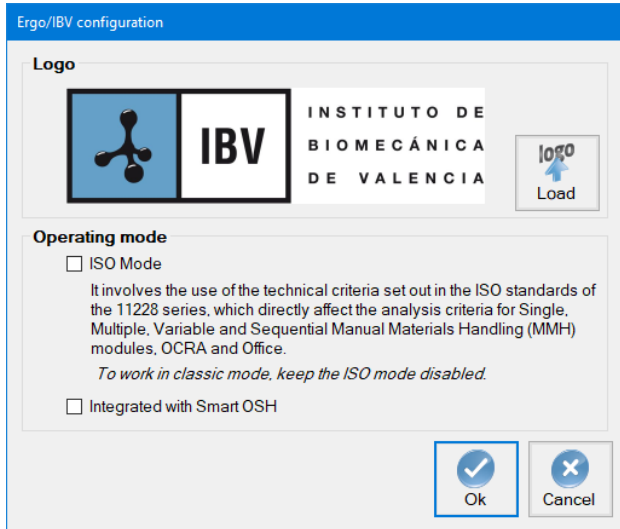

Figure 5. Configuration window (Utilities menu)
- *Configure* (Figure 5): it shows a configuration window where you can load the image of the company logo (which will be included in all the reports generated by the program); enable and disable the ISO operating mode [see “*ISO analysis mode*” in this chapter].